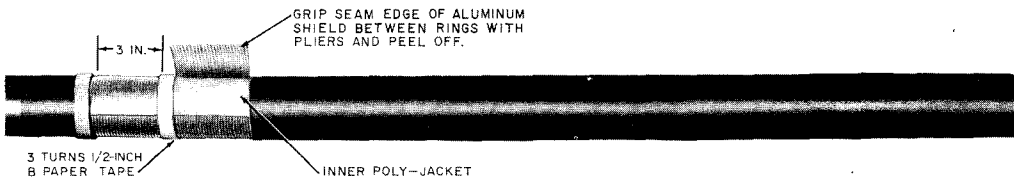

Fig. 4—Cutting and Removing Aluminum Shield on PAP Sheath
**3.02** On *PAP sheath* cable place a collar of three turns of 1/2-inch B Paper Tape around the aluminum shield three inches from the sheath opening marker toward the cable end. Remove the aluminum shield as shown in Fig. 4. On *PASP*